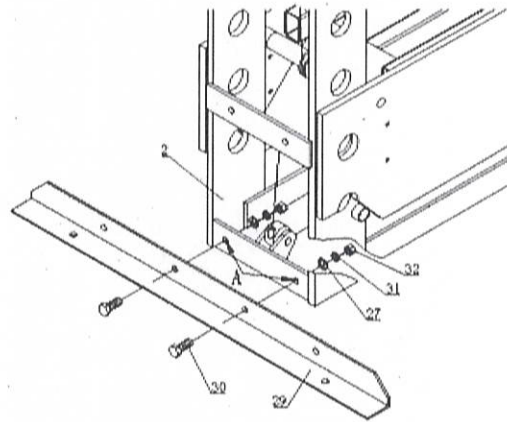

Fig. 1
Disassemble the hex bolt M12\*30 (30), washer  $\phi$  12 (27), spring washer  $\phi$  12(31), hex nut M12 (32) from part A of the press frame body. Then assemble the base to the body frame by the above parts. (refer to fig 1)